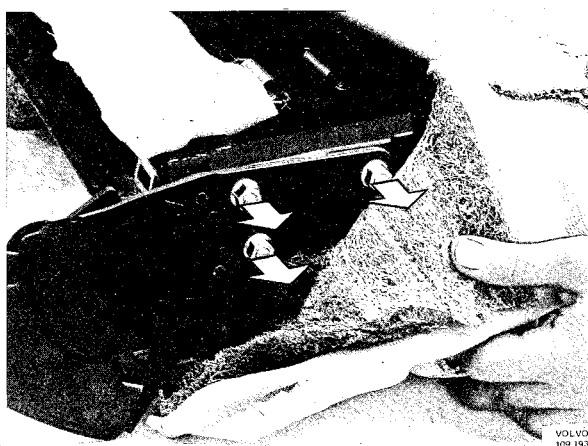

Fig. 8-57. Removing seat reclining mechanism
- B. Fold down the padding, remove the screws and the mechanism, see Fig. 8-57.